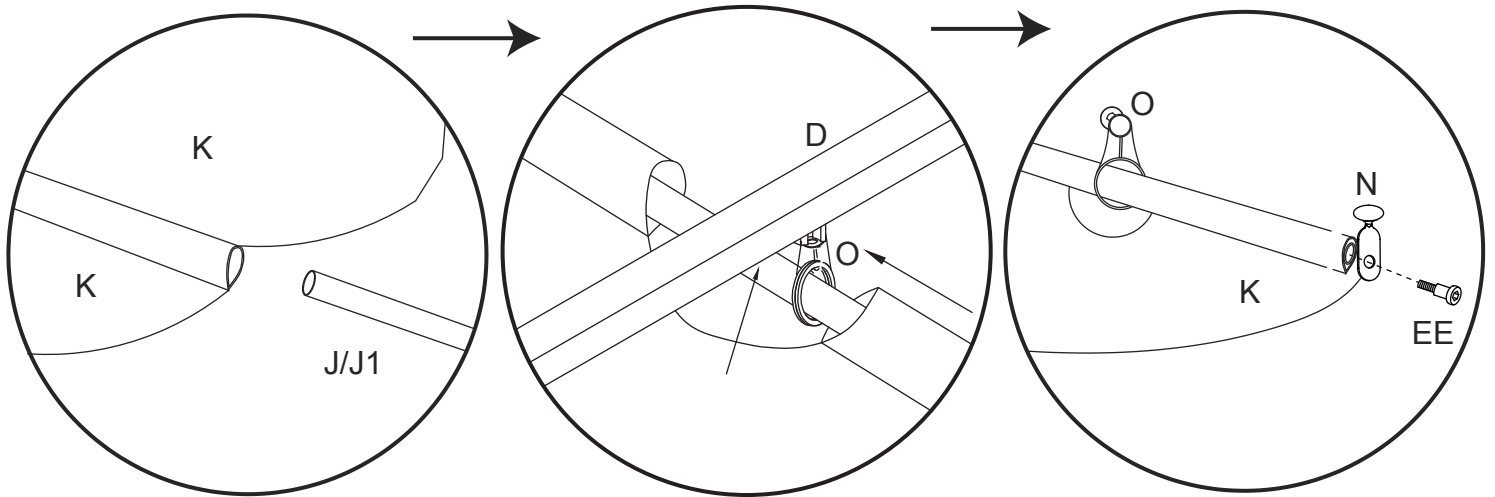

Fig 19
- 11.3. Insert the Left Cloth-inserted Pipe (J) and the Right Cloth-inserted (J1) into the Roof (K). Connect the Pulley (N) to the Cloth-inserted Pipe (J/J1) with the Bolt (EE) respectively. Connect the remaining Cloth-inserted Pipes (J/J1) in the same way. See Fig19.
- Note:** The Fixed Tube (J/J1) must go through the middle of the Pulley (O).